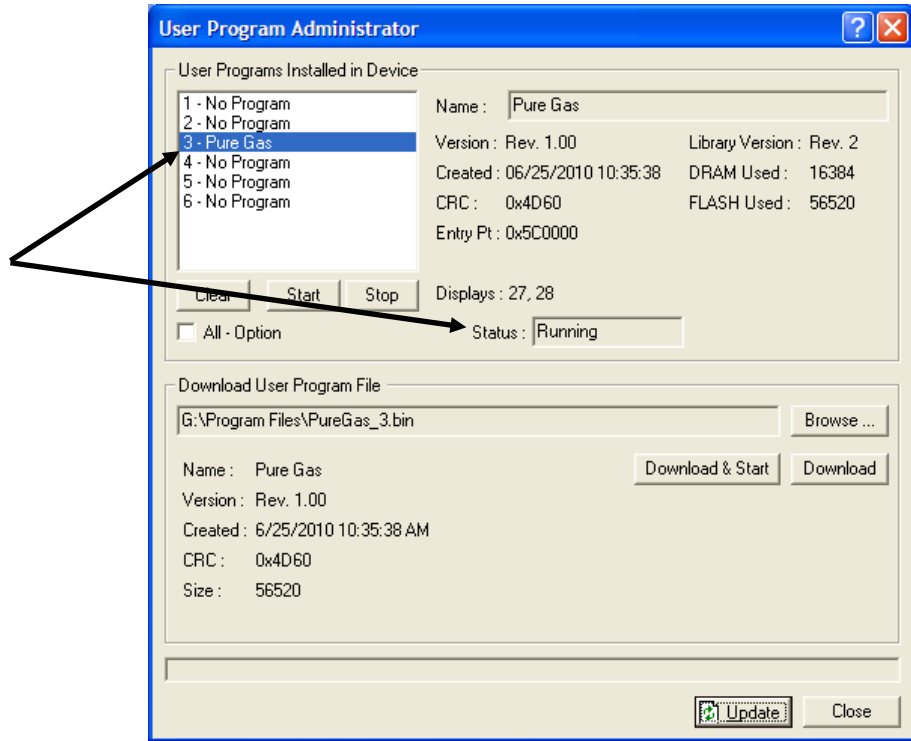

Figure 8. User Program Administrator
- Click **OK**. The User Program Administrator screen displays (see *Figure 8*). Note that: